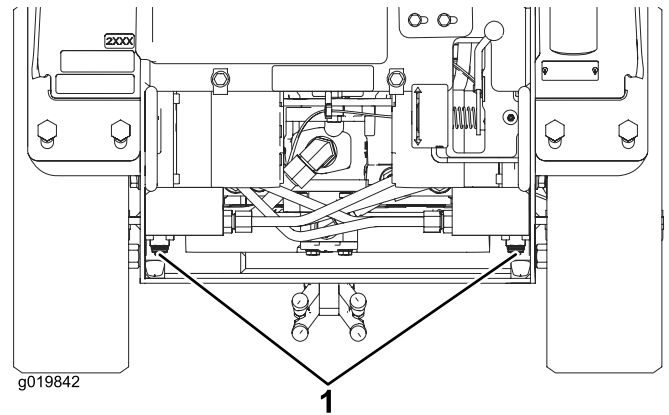

Figure 19
4. Using a wrench, turn the tow valves on the hydraulic pumps twice counter-clockwise (Figure 19).